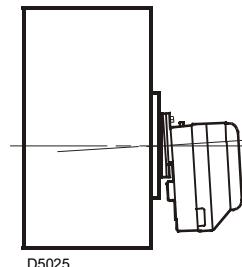

Fig. 8
- Fix the flange 1) to the boiler door 3) using screws 5) and (if necessary) the nuts 2) interposing the insulating gasket 4), (see Fig. 8).
When the installation is complete, check the burner is slightly tilted, as shown in Fig. 8.